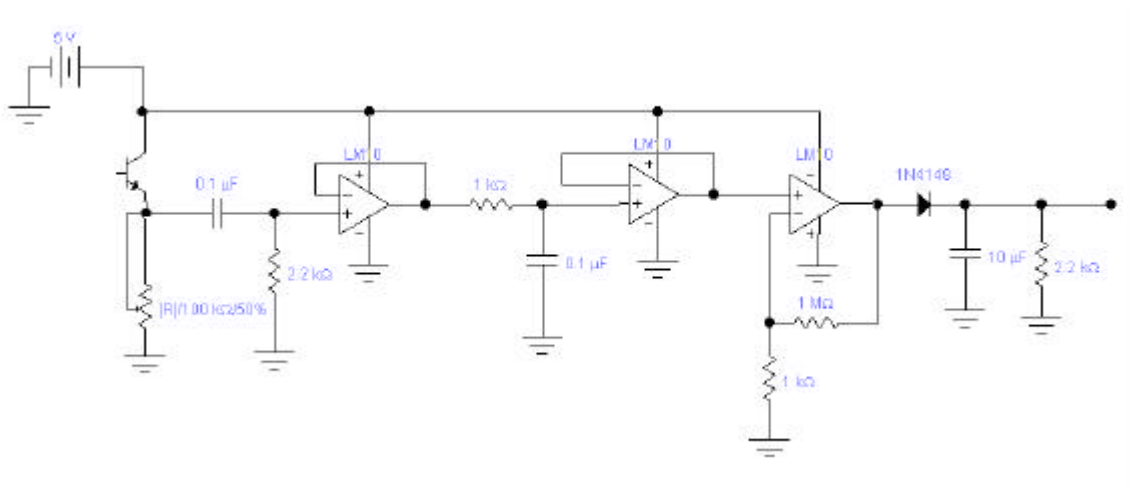

Figure 2 Schematic of detection circuit. The transistor at the left of the diagram is the SDP8405 phototransistor. Each op-amp shown is 1/4 of a TLC27L4.
- Build the detection circuit as shown in Figure 2. It is suggested that you build *and* test each amplifier (voltage follower (2 each) and non-inverting amplifier) *separately*, so that you are confident that each one works as expected. Once you know that each amplifier is giving you what you expect, then connect the two voltage followers together, and test that their combination gives you what you expect, etc. If the IR beacon flasher is not available to drive the phototransistor, instead simulate the emitter follower with a small amplitude sine wave. The end goal is to see a signal at the output of your detector whose amplitude increases as the amplitude of the input increases.